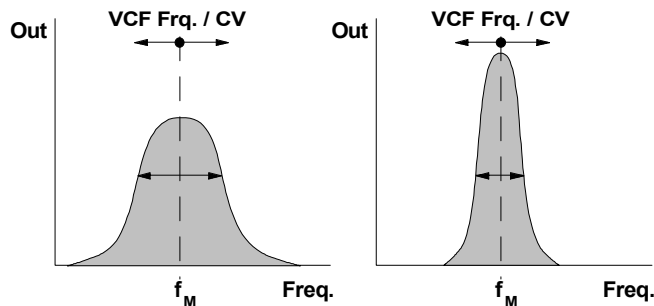

fig. 1: Frequency response of a band-pass filter with lower (on the left) and higher resonance
The A-127 is a triple resonant filter containing three band-pass filters each with controllable filter frequency f_M , resonance and amplitude. What a band-pass filter does is to attenuate signals in frequency ranges both above and below the filter frequency - referred to here as the middle frequency - resulting in a bell-shaped response curve (see fig. 1). In this way, a particular part of the audio spectrum can be singled out.
band let through, and the Audio Level control to set the volume (see fig. 1).
The module is set up at the factory so that attenuator ① doesn't have any effect on the Original signal level ⑧, so the effected sound (3 Filters) and "Original" sound can be controlled separately, by ① and ⑧ respectively (see fig. 1). It's possible to change this by altering a jumper on the mixer circuit board (see chapter 7, Appendix), so that both the levels (Filter + Original) can be controlled by attenuator ① .
② LFO Frq.
⑥ Resonance
Control ⑥ is used to set the **filter resonance**. The higher this control is set, the narrower the **bandwidth** of the bandpass effect (see fig. 1).
The module is set up at the factory so that attenuator ① doesn't have any effect on the Original signal level ⑧, so the effected sound (3 Filters) and "Original" sound can be controlled separately, by ① and ⑧ respectively (see fig. 1). It's possible to change this by altering a jumper on the mixer circuit board (see chapter 7, Appendix), so that both the levels (Filter + Original) can be controlled by attenuator ①.
① Audio In